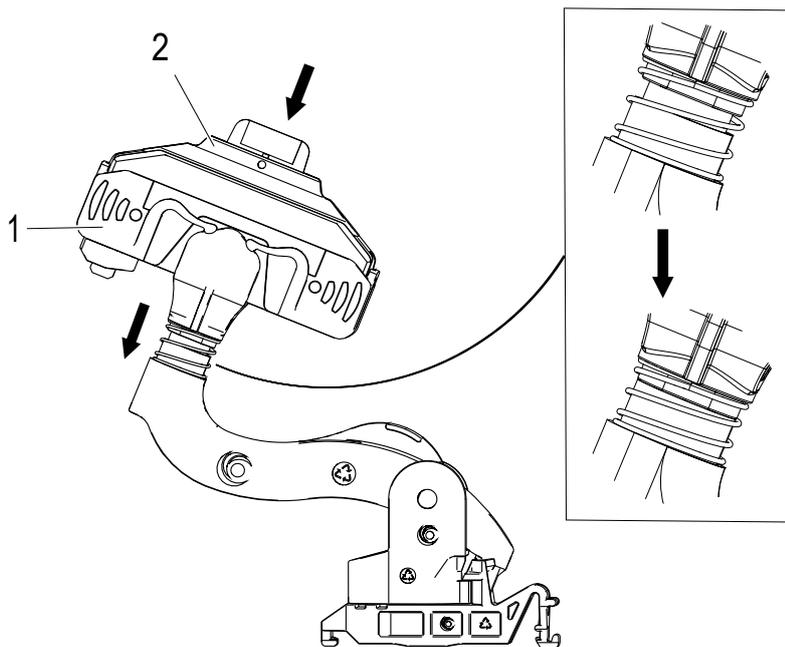

Fig. 189: Check collector head in installed state
- Retract the balance (1) back to mechanical stop and hold (see Fig. 189).
- Check the ease of movement of the cover (2).
- Press the cover (2) in so that it springs out again independently (see Fig. 189)